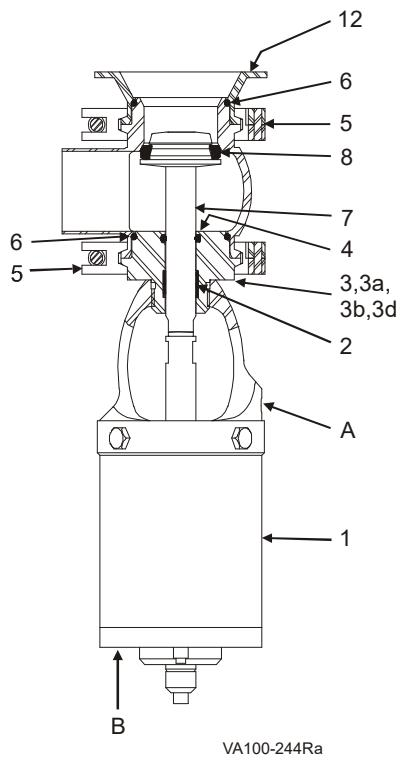

Figure 21: W64R/W84R Tank Outlet Valve
1. Screw the adapter (Figure 21, item 3) onto the yoke.
2. Install the body O-ring (item 6), stem O-ring (item 4), and the PTFE bearing (item 2).
3. Using 5/8-inch torque wrench flats on the stem, install the valve stem (item 7). Torque to 380 in/lbs.
5. Assemble the body to the adapter (item 3); secure it with the body clamp (item 5).
7. Insert the valve into the tank flange and tighten the body clamp (item 5).